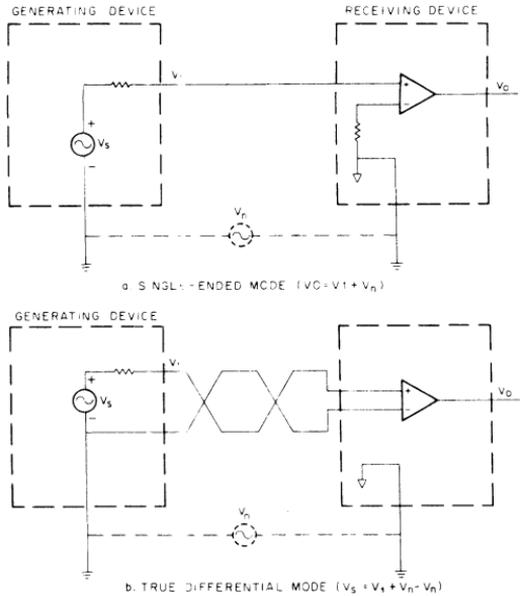

Figure 8 Single-Ended Versus True Differential Input Modes
**Quasi-Differential Mode** – The “quasi” prefix in “quasi-differential” can best be explained in the context of a preliminary review of true differential operation. A true differential input involves two signal lines connected to a differential amplifier in such a way that the output of the device is a function of the instantaneous *difference* between the voltages on the two signal lines. One advantage of such a configuration is illustrated in Figure 8.